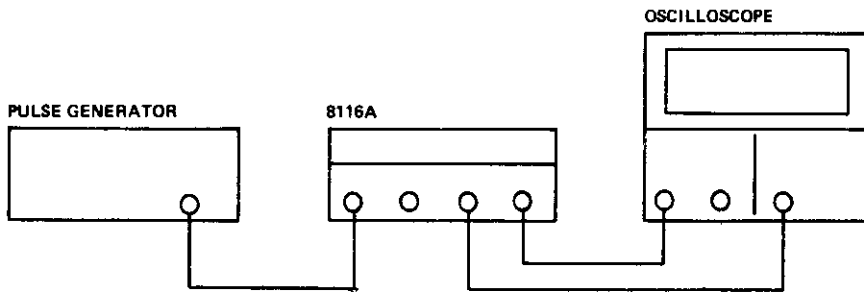

Figure 4-17. Test setup
1. Connect equipment as shown in Figure 4-17.